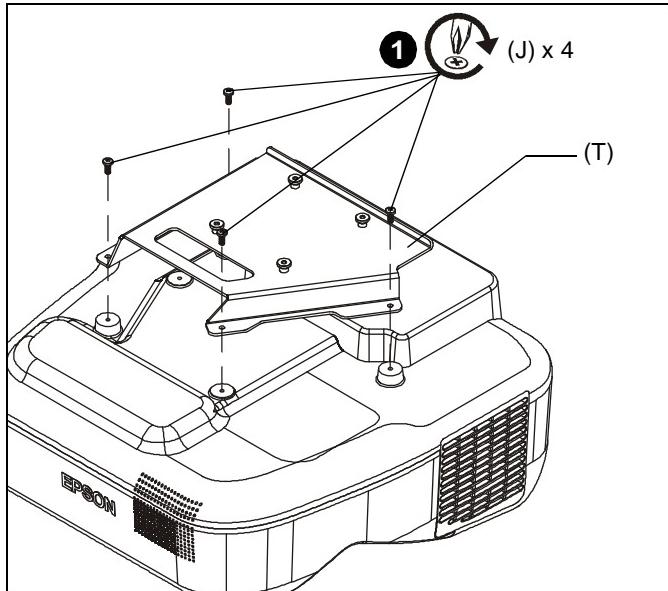

Figure 8
1. Attach projector interface (T) to projector using four M4 x 10mm Phillips cap head screws (J). (See Figure 8)